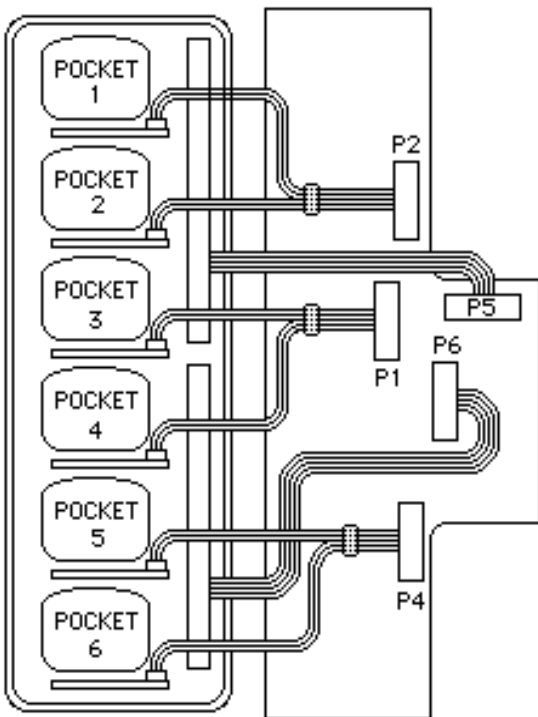
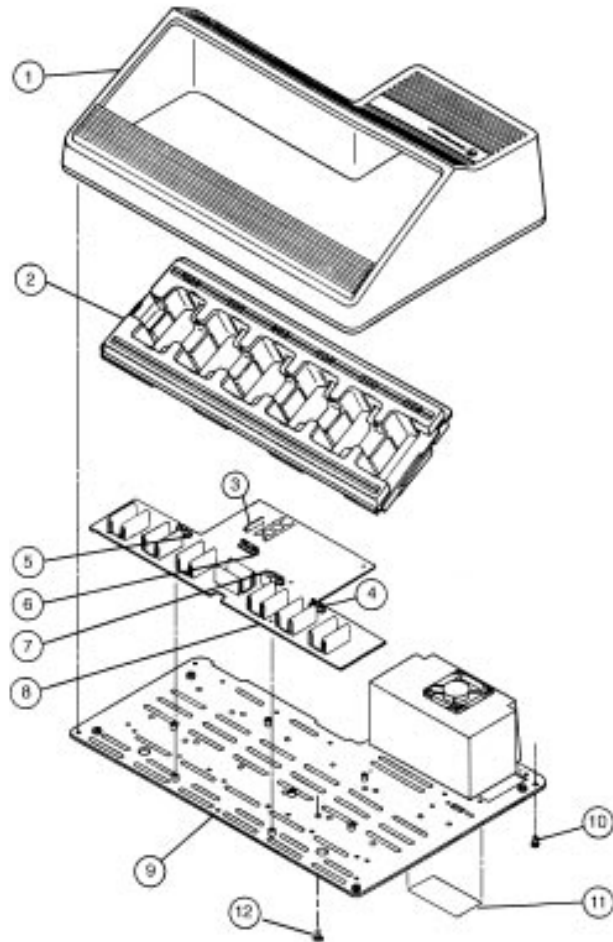

Figure 1. Wiring Diagram
Figure 2. Exploded View
- Pocket sub-assembly (Item 2, Figure 2)
- Label (Item 11, Figure 2)
3. Using the 1/4" nut driver, remove the six #8 screws (Item 10, Figure 2) from the perimeter of the bottom plate (Item 9, Figure 2) that secures the outer housing (Item 1, Figure 2).
4. Using the 5/16" nut driver, remove the four #10 screws from the center area of the bottom plate that secures the pocket assembly (Item 2, Figure 2).
5. While supporting the bottom plate (Item 9, Figure 2), so it doesn't fall out, return the charger to the upright position, so that pockets face you.
6. Remove the housing (Item 1, Figure 2) and set it aside.
7. Gently lift the old pocket assembly (Item 2, Figure 2), and note the positions of the connectors (see Figure 1). Also, note the orientation of the two metal brackets (under the pocket assembly) that secure the pocket assembly to the baseplate assembly.
8. Gently unplug all connectors (P1, P2, P4, P5, and P6, Figure 1) from the main printed circuit board, and remove the old pocket assembly.
1. With the new pocket assembly oriented as noted in step 7 above (with inside of pockets facing you, and LEDs up), gently plug in all connectors, starting with the center connectors (P1, P6, P5) and followed by the outer connectors (P2 and P4) per Figures 1 and 2.
3. Turn the new housing pocket in a semi-circular direction to clear all the wires and set it on the charger base (Item 9, Figure 2).
5. Using the 5/16" nut driver, start the four #10 screws into the pocket assembly brackets (Item 12, Figure 2).
6. Replace the outer housing (Item 1, Figure 2).
7. Using the 1/4" nut driver, start the #8 screws (Item 10, Figure 2) that secure the outer housing. If necessary, use the awl to align the holes.
9. Remove the protective adhesive liner from the new label (Item 11, Figure 2), and affix the new label over the existing label on the bottom of the charger.
11. Ensure that each LED lights for its appropriate pocket by alternately placing a battery in each pocket. If the LED for the pocket adjacent to it doesn't light, a wiring error was made. Disassemble the unit and rewire it per Figure 1.
Parts List (Refer to Figure 2.)